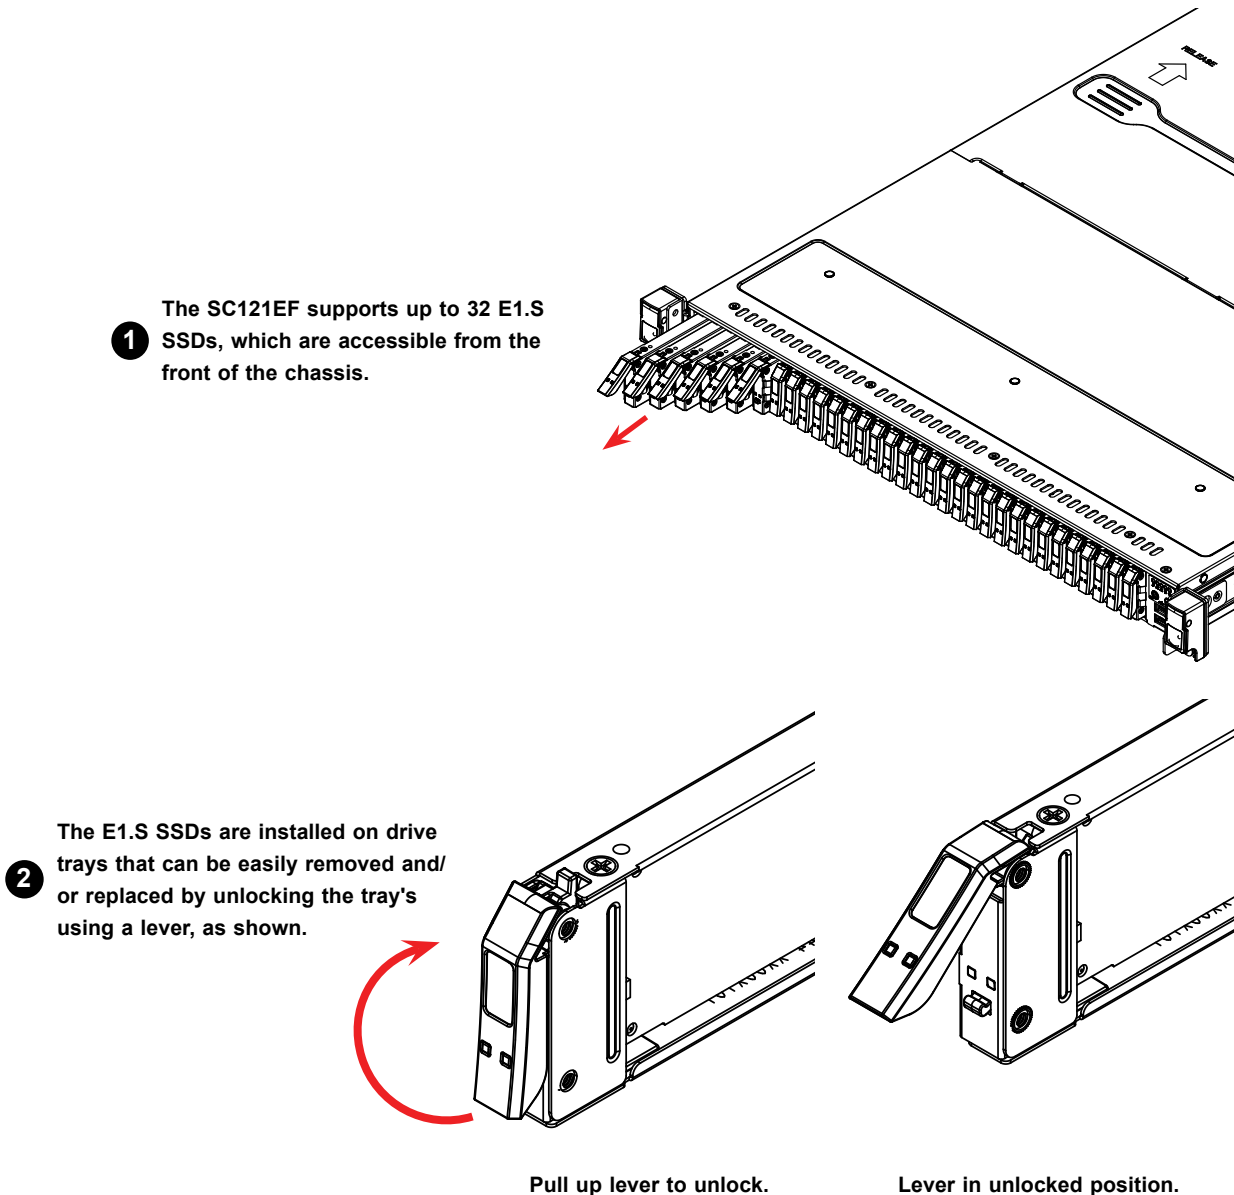

Figure 3-4. Removing the E1.S SSD Drive Trays
- **IPMI > Server Health > NVMe SSD** – Shows the temperatures of all NVMe drives, as in Figure 3-4.